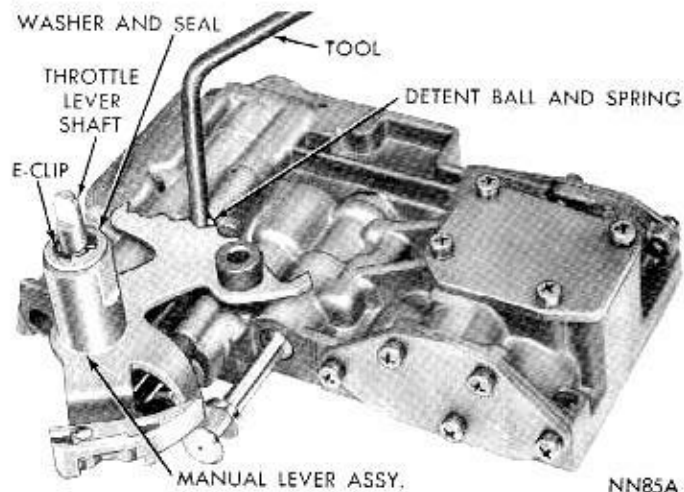

Fig. 43—Installing Detent Ball, Spring and Control Levers
(9) Install throttle lever and shaft on valve body (Fig. 43). Insert detent spring and ball in its bore in valve body. Depress ball and spring with Tool C-3765 or similar tool and slide manual lever over throttle shaft so that it engages manual valve and detent ball. Install seal, retaining washer and E-clip on throttle shaft.
(10) Position valve body assembly on the repair stand.